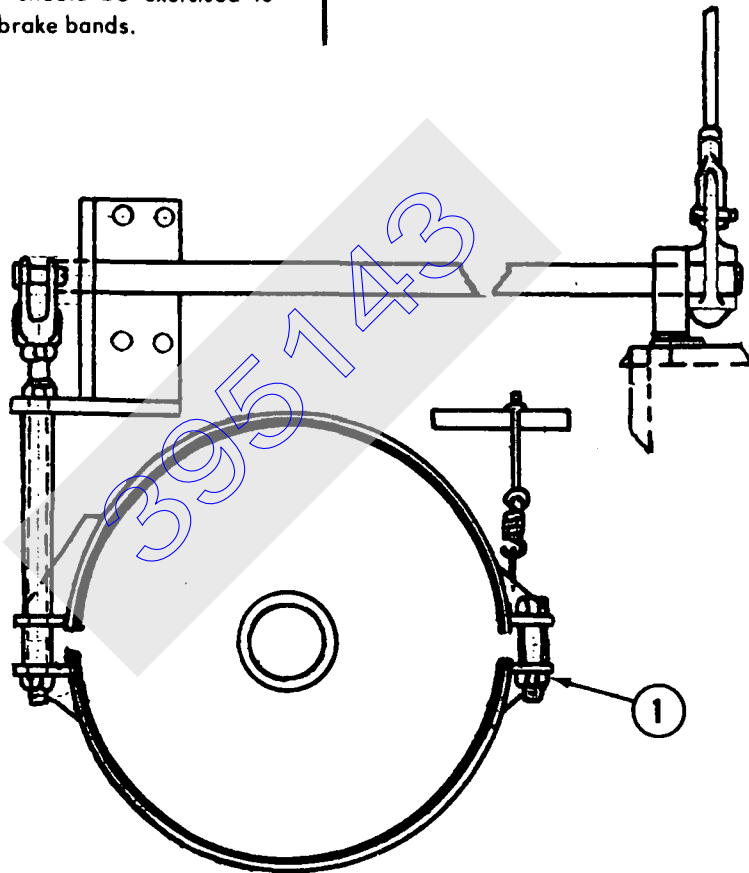

FIG. 504
Only one adjustment is necessary to compensate for brake lining wear, tighten nut (1), (Figure 504). A 360 degree clearance of .030" should be held between the brake drum and lining. Too close of an adjustment would cause the brake to heat which would result in a poor operating auxiliary brake. All linkage is factory set and should never need adjusting. Periodically remove dirt shield and check operation of brake band. Lubrication always makes operating linkage work more freely. When lubrication is necessary, care should be exercised to avoid lubricant from getting on brake bands.